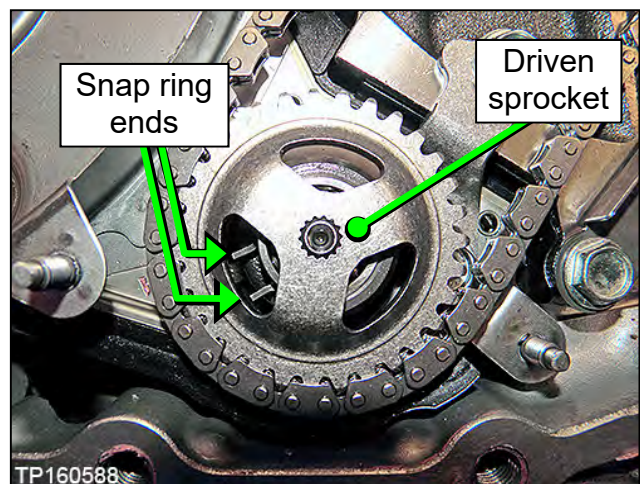

Figure 151
- Expand the snap ring with a suitable tool, and then push down on the driven sprocket until it bottoms out (Figure 151).